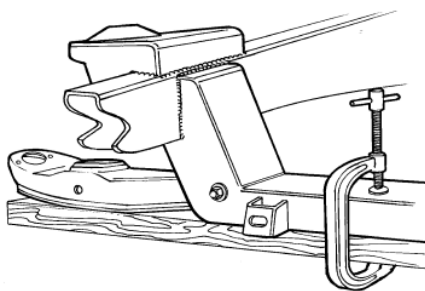

Figure 8- Control Arm Install
11. If you are using factory lower control arms and strut rods you will continue here. Use the lower control arm and strut rod for locating the rear strut rod supports and gussets. Using a 2 x 4 and a C-clamp, install the control arm as shown in **Figure 8**.